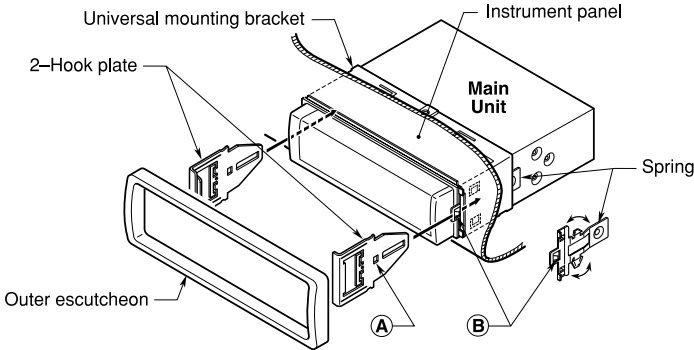

Figure 9
3. Insert the hook plate between the spring and the universal mounting bracket, fit tab (B) of
the spring into hole (A) of the hook plate, then pull the main unit out by the hook plate. (Insert both the right and left edges of the hook plate.) (Figure 9)